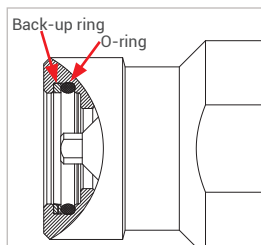

Figure 12
- ▶ Before inserting the receptacle insert (Pos. 7), check both sealing elements (o-ring and back-up ring, *Figure 12*) for correct installation direction, proper position and any damages. If the seals are damaged or in a similar condition, replace the seals. Please refer to *Chapter 8.4.1 Replacing the sealing elements in the receptacle insert (Pos. 7) on page 26*.